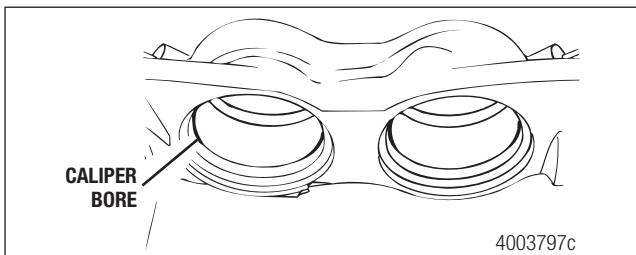

Figure 6.1
5. Apply a thin film of silicone grease or brake fluid to the caliper bore seal land between the piston boot and seal groove. Apply the grease or brake fluid around the entire circumference of the caliper bore. Figure 6.1.